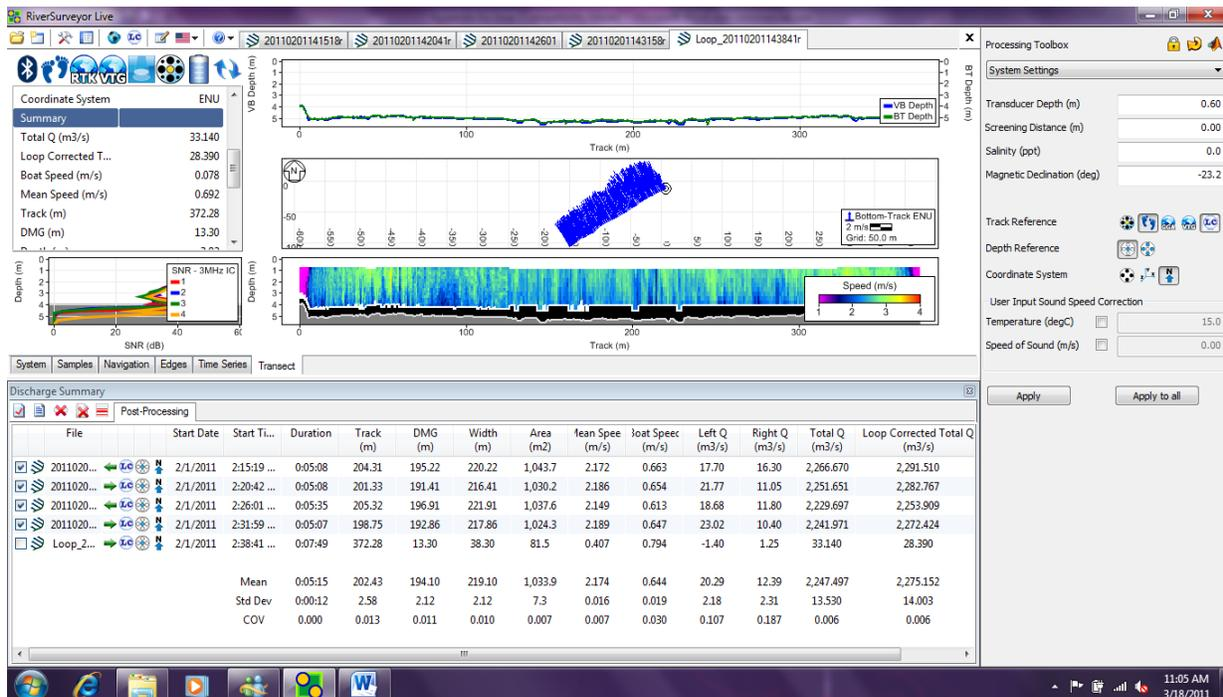

Figure 135. Loop Method Correction
- Click on the **LC** icon at the end of the Track Reference options in the Processing Toolbox on the right side of the screen. Click **Apply to all** to apply the loop correction to the open measurements. As soon as the correction (if valid) is applied, the Discharge Summary and the side bar summary table will update to show the “Loop Corrected Total Q” as shown in Figure 135: